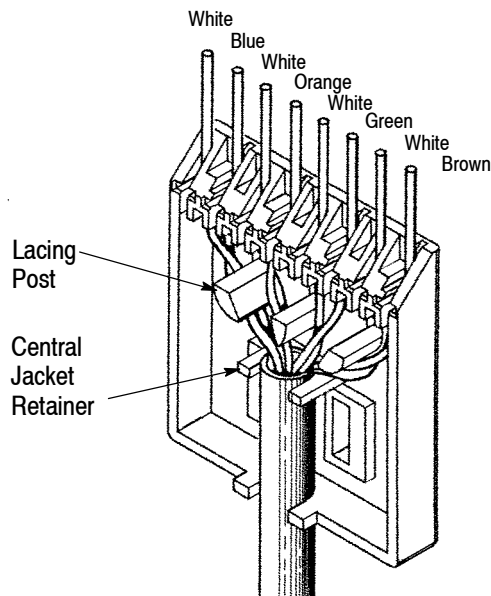

Figure 3
5. One pair at a time, grasp end of conductors and untwist pair just enough to pull each conductor firmly down into holding slot. White conductor of each pair must be placed in left slot. See Figure 3.